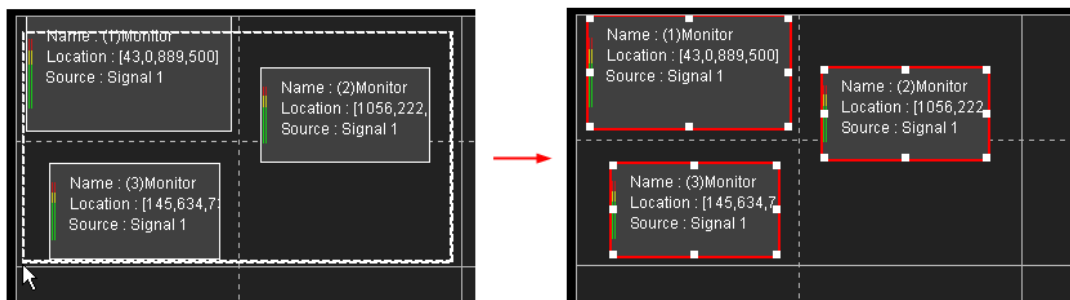

Figure 3.5-75 Multiple Selected Element Windows
- Select multiple element windows:** click **Select** tool  in edit tool bar, click on a desired element window, then press Ctrl Key down, and click on the other desired element windows, thus to select multiple element windows. Or, after click the Select tool, press the left mouse button down, drag and draw a big rectangle to circle all the other desired element windows, release the left mouse button and these element windows are selected, as shown in **Figure 3.5-75**: